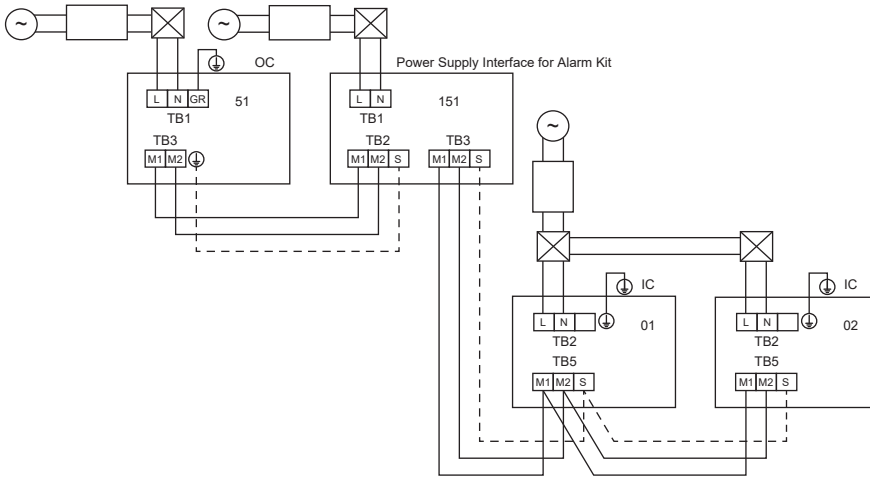

Fig. 5-13
5.4. External wiring procedure (Fig. 5-13, 5-14, 5-15)